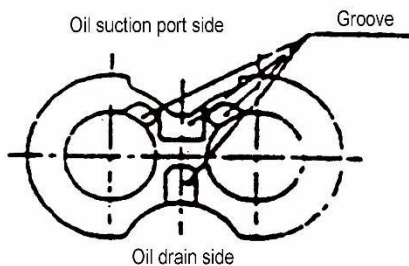

Fig. 7-14 Lining plate
- (d) Install the lining plate on the gear side to align the groove with the gear point. Be careful not to mix the oil suction port side with the oil discharge port side. (Figure 7-14)